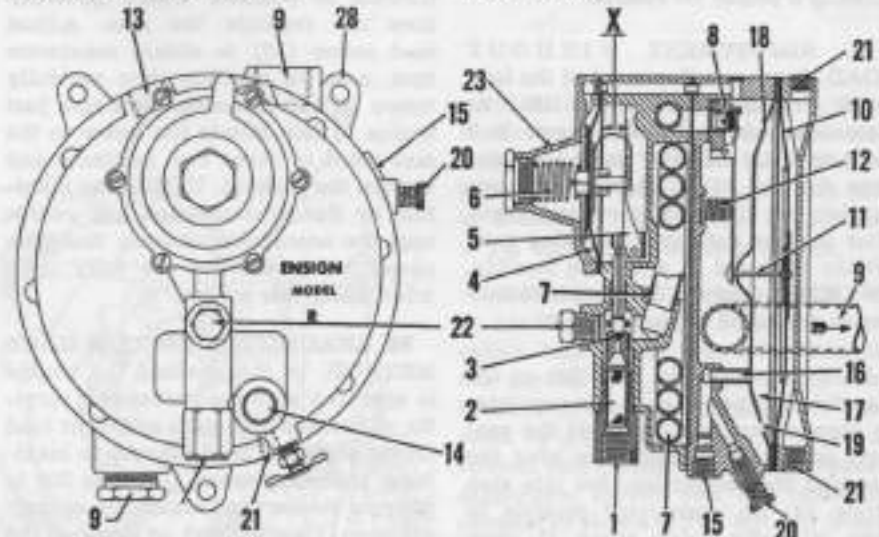

Fig. MH165—Ensign model R regulator as used on Massey-Harris model 55LP.
87. HOW IT OPERATES. Liquid LP-Gas from supply tank enters the R regulator at (1—Fig. MH165) and is